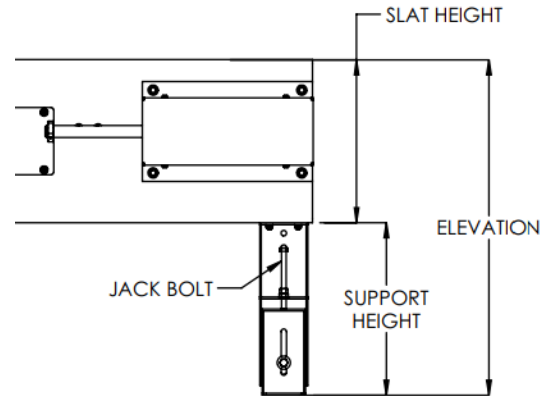

Figure 2 – Unit Label
- Supports should be located at ends of conveyor and centered under each splice on multi-section conveyors (nominal 10Ft. centers). See Figure 2.